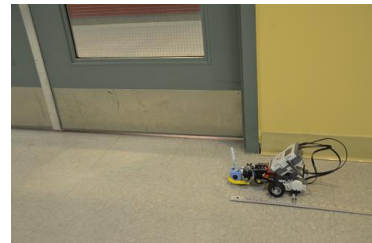

Figure 7
- Makes a pen mark by putting the pen down then up again. See Figure 7